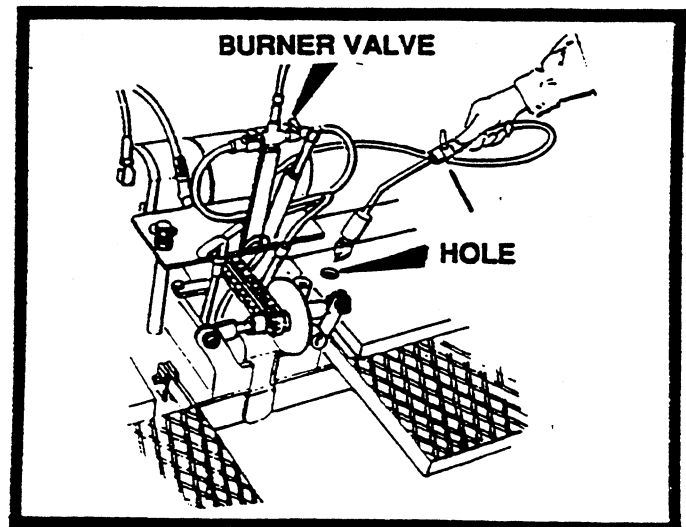

FIGURE 12
4. Direct ignitor flame into hole in screed cover and turn burner valve to "on" position. When the burner is lit, follow same procedure for burner on opposite side as shown in figure 12.